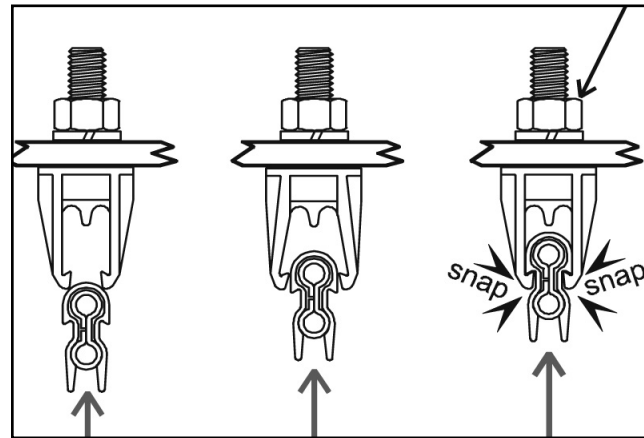

Figure 22-3 Plastic Snap-In Hangers
- B. For plastic snap-in hangers, torque mounting bolt to 8 ft. lbs. after installing all conductor bars. See **Figure 22-3**.